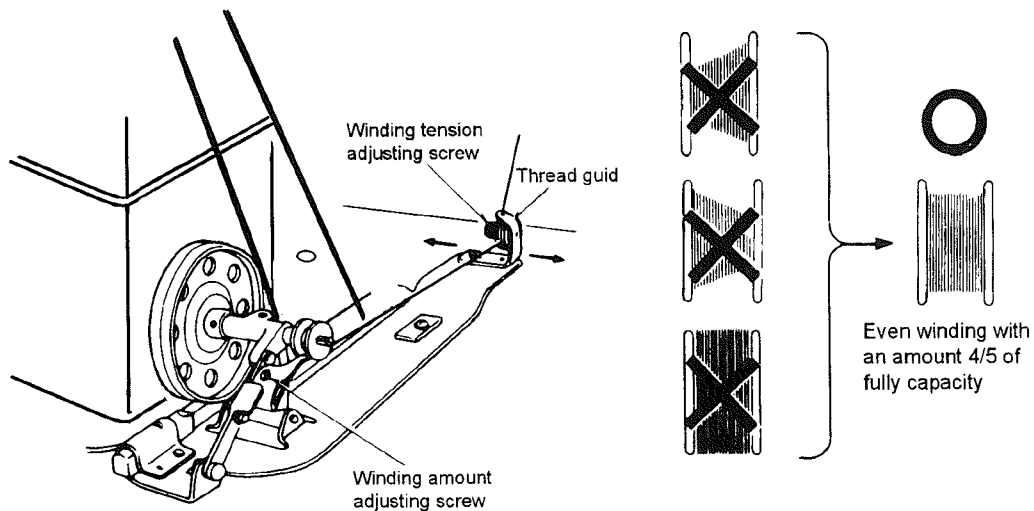

Fig.12
11. How to wind the lower thread (Fig.12):